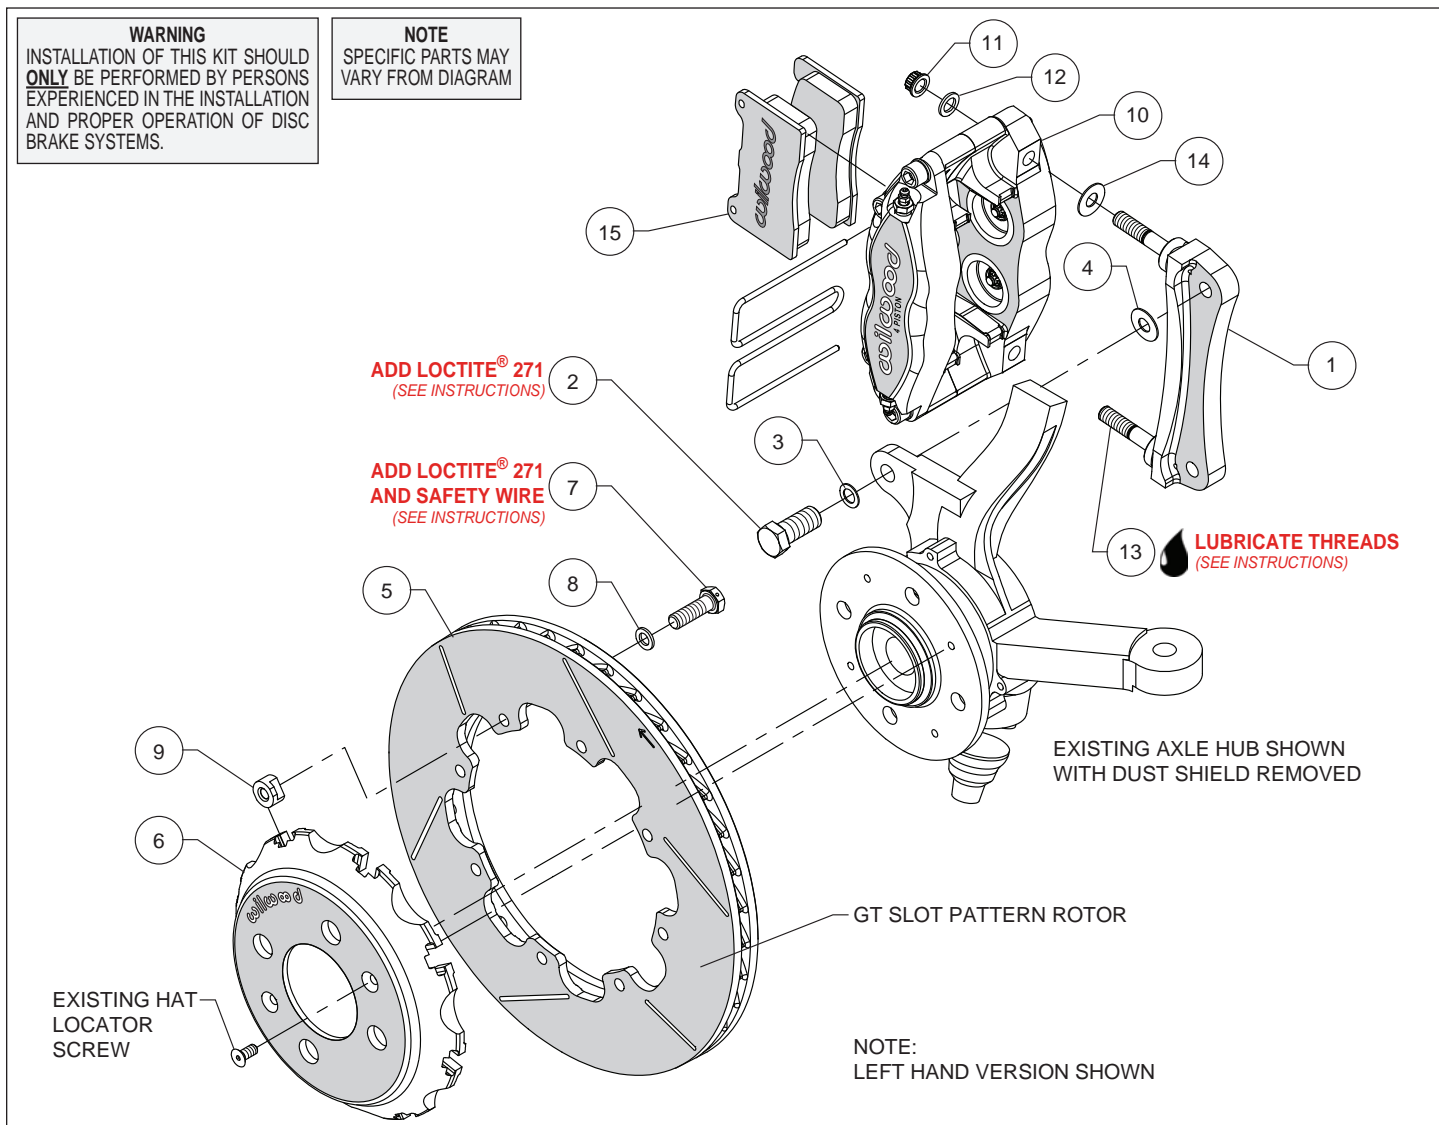
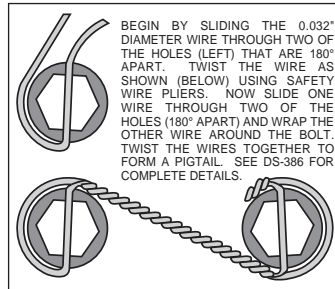

Figure 1. Typical Installation Configuration
Figure 3. Safety Wire Diagram
Assembly Instructions (numbers in parenthesis refer to the parts list and Figure 1 on the preceding pages):
- The caliper mount bracket (1) should initially be installed with clean, dry threads on the mounting bolts. Orient the bracket, as shown in Figure 1 and Photo 1, and install using bolts (2) and washers (3). Initially place one .033" thick shim (4) on each bolt between the bracket and upright, Figure 1. Temporarily tighten the mounting bolts. **NOTE:** *The bracket must fit squarely against the mount bosses on the upright.* Inspect for interference from casting irregularities, machining ridges, burrs, etc. Later, after the caliper alignment has been checked, the mount bolts will be secured using red *Loctite*[®] 271.
- Orient the rotor (5) and the hat (6) as shown in Figure 1 and Photo 3. Attach rotor to hat using bolts (7), washers (8), and t-nuts (9). Follow additional instructions included with the bolt kit. Using an alternating sequence, apply red *Loctite*[®] 271 to the threads, and torque to 220 in-lbs. Safety wire bolts using standard 0.032 inch diameter stainless steel safety wire as shown in Figure 3. Please refer to Wilwood's data sheet DS-386 (available at www.wilwood.com/Pdf/DataSheets/ds386.pdf) for complete safety wire installation instructions.
- Lubricate the caliper mounting studs (13) with lightweight oil. Initially place one .035" thick shim (14) on each stud as shown in Figure 1 and Photo 4. Mount the caliper (10) onto the bracket (1) using lock nuts (11) and washers (12), Figure 1. Temporarily tighten the lock nuts and view the rotor through the top opening of the caliper. The rotor should be centered in the caliper, Photo 5. If not, adjust by adding or subtracting shims (4) between the bracket and the mounting bosses. Once the caliper alignment is correct, remove the bracket mounting bolts (2) one at a time, apply red *Loctite*[®] 271 to the threads, and torque to 60 ft-lbs.
- Insert the brake pads (15) into the caliper with the friction material facing the rotor (5), as shown in Figure 1 and Photo 6. Check that the top of the brake pad is flush with the outside diameter of the rotor, Photo 7. If not, adjust by adding or subtracting shims (14) between the caliper and the bracket. After the caliper pad height is set, torque the caliper lock nuts (11) to 30 ft-lb. Secure the pads in place using the pad clip retainer, Photo 8.